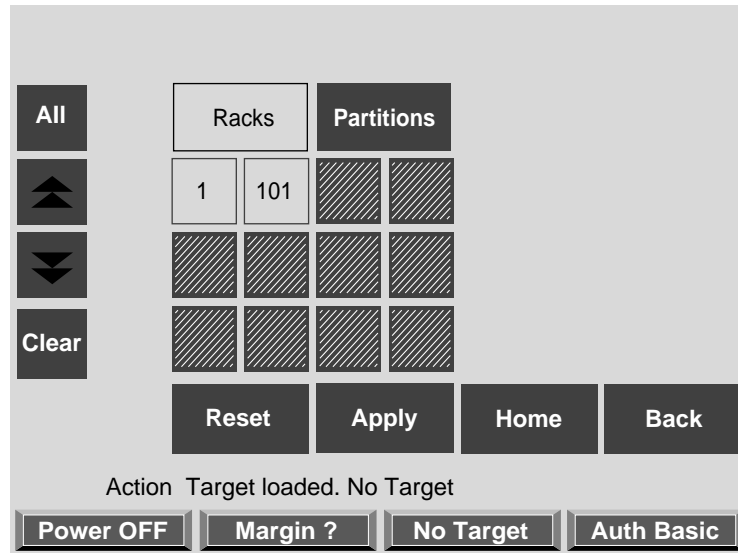

Figure 4-9 Target Select Window
6. Select **All** in the upper left-hand corner of the display to power on all the bricks in the graphics system, (see Figure 4-9).